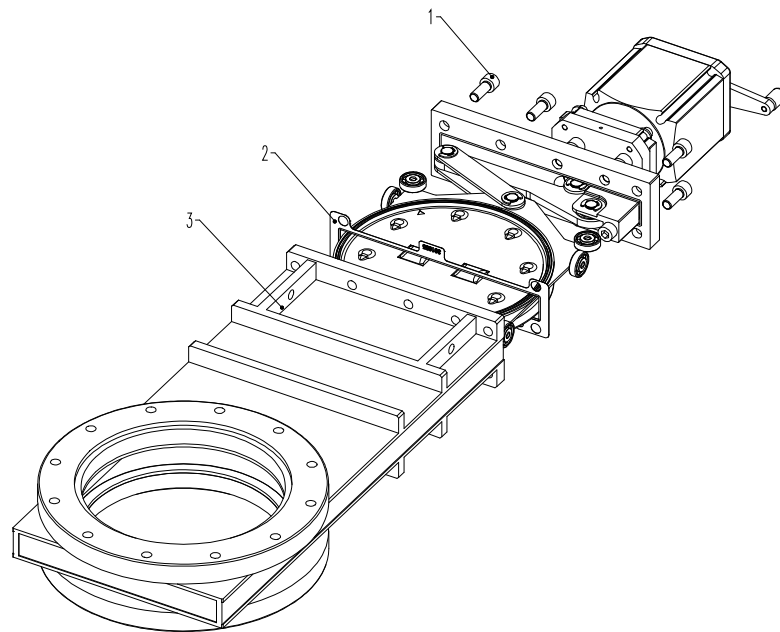

Figure 6-1
4. Remove screws (1) according to «Figure 6-1» on page 15.
5. Withdraw actuator / mechanism unit carefully from body without touching the body wall; see «Figure 6-1» on page 15.
18. Mount screws (1) according to «Figure 6-1» on page 15.